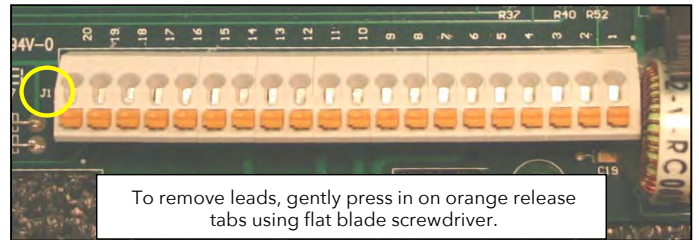

Figure 13. TERMINAL BLOCK J1.
18. From circuit board terminal block J1, carefully remove all leads connected to it. Refer to Figure 13. Disconnect all leads from terminal block.